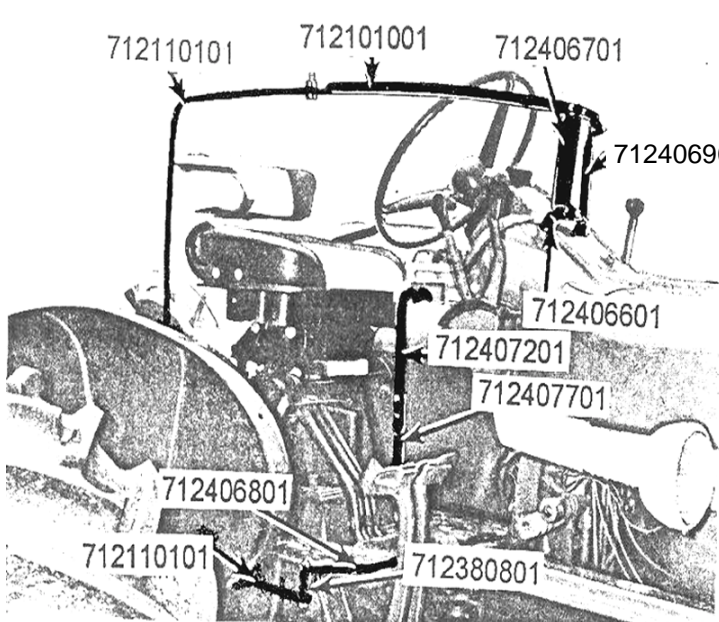

Figure 1
1. Attach # 712406701 Mount Bracket to # 712406601 Mount Bracket Clamp using two (2) 5/16x3/4" hex bolts and nuts.
2. Attach # 712406601 Mount Bracket Clamp to the tractor using two (2) 5/16x3/4" hex bolts. See Figure 1 & 2
3. Attach # 712406801 Side Arm Bracket to the right side of the platform using front bolt in platform. The curve goes toward the rear of the tractor. See Figure 1 & 3
Model F706: use a 3/8x2 1/2" hex bolt and nut with # 712380801 Spacer between the Side arm and Side Arm Bracket. See Figure 1